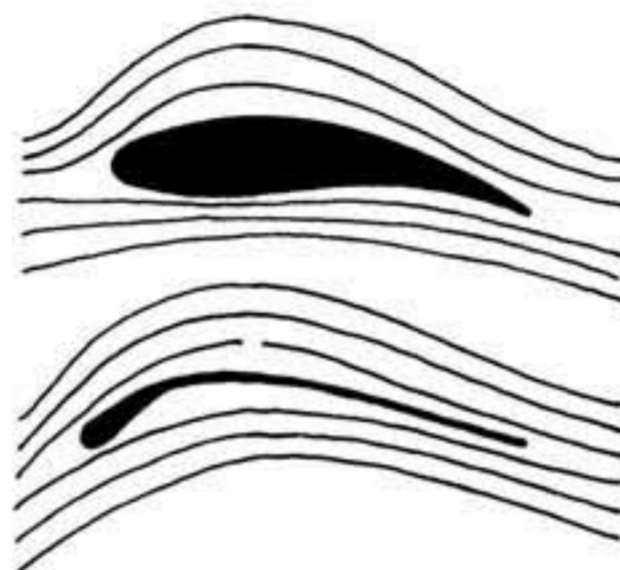

Fig. 15 Comparison of hang glider and sailplane aerofoils.
7.1 In aerodynamic terms this sort of aerofoil is very sharp nosed. It cleaves the air very neatly into that which goes over the wing and that which goes under. By comparison a blunt nose section on say a conventional sailplane allows the air some choice which way it goes at varying angles of attack. See Fig.15.